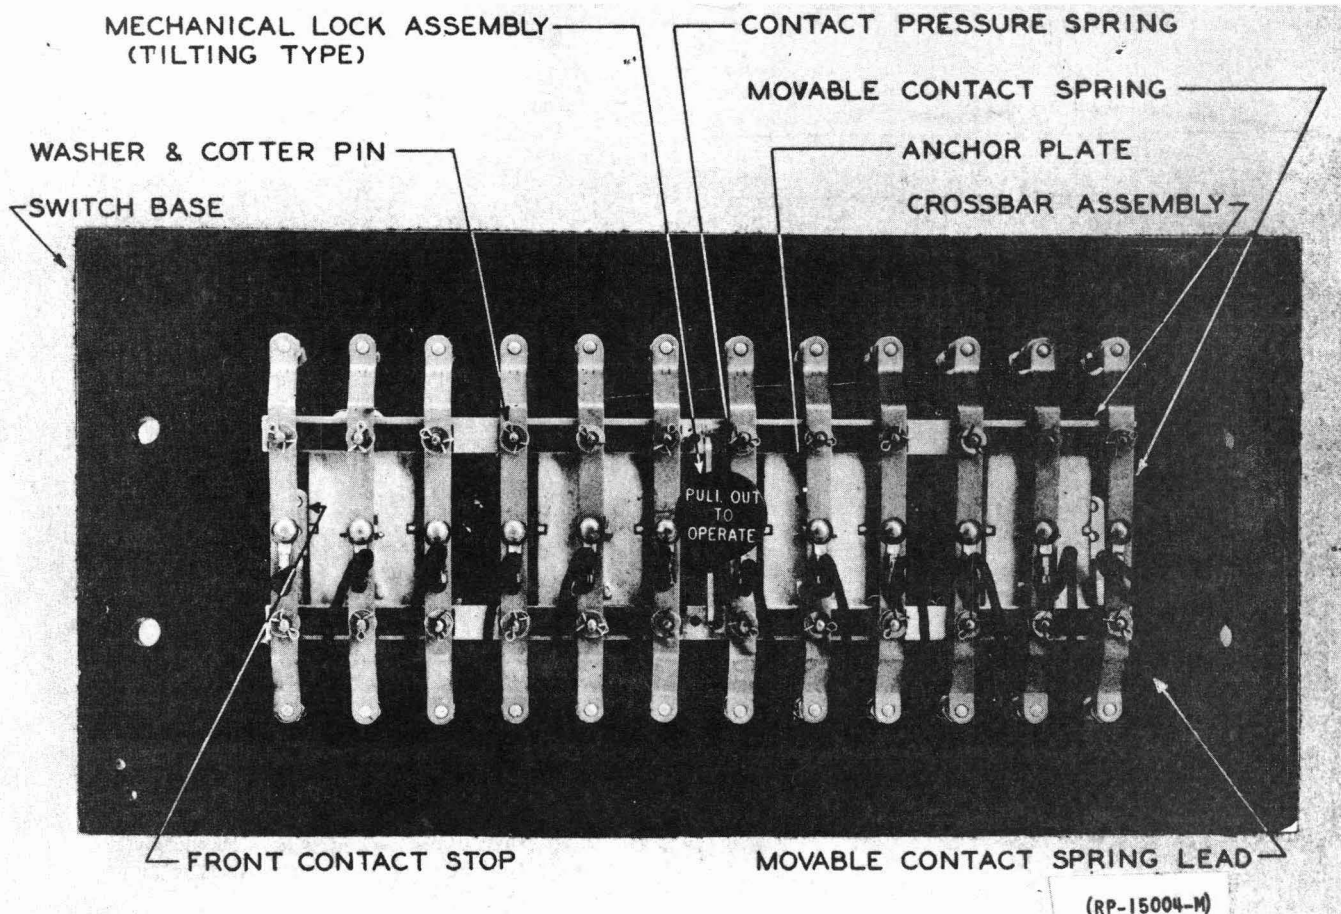

FIG. 1 TRANSFER SWITCH KS-5264
1.51 Figures 1 through 7 illustrate some typical magnetically operated relays and indicate various parts.